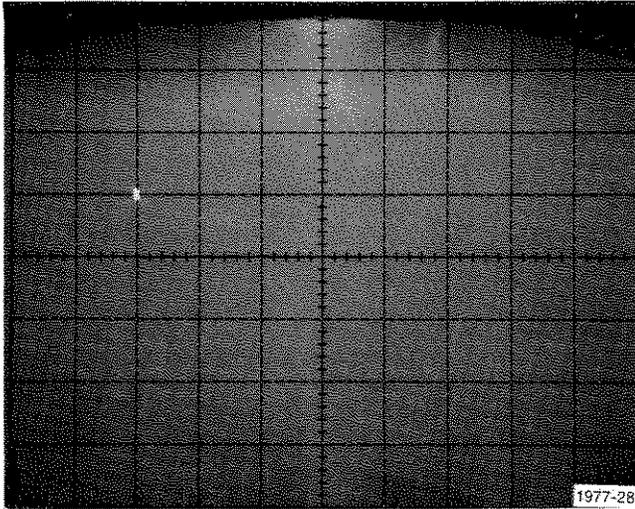

Fig. C-10. Display of output sink current.
b. The 1-division of vertical deflection in Fig. C-10 shows that the device used for this test had an output sink current of $50 \mu\text{A}$, about the middle of the specified range (10 to $80 \mu\text{A}$).